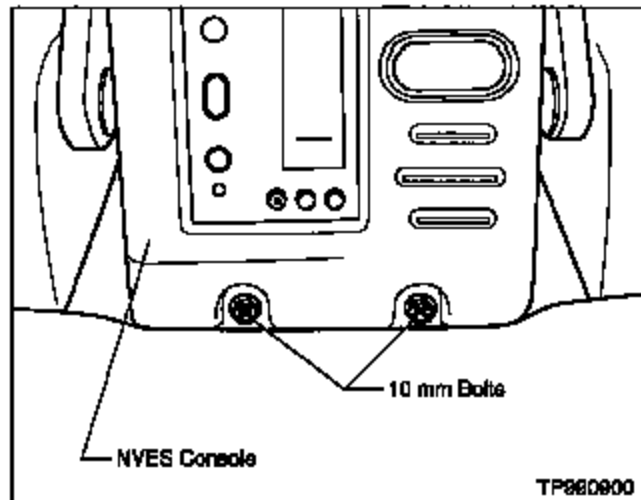

Figure 1
- B. Re-position the floor mat between the front seats and the second row seating to access the two rear NVES console mounting bolts (see Figure 1).
- C. Remove the two, rear console mounting bolts (see Figure 1).